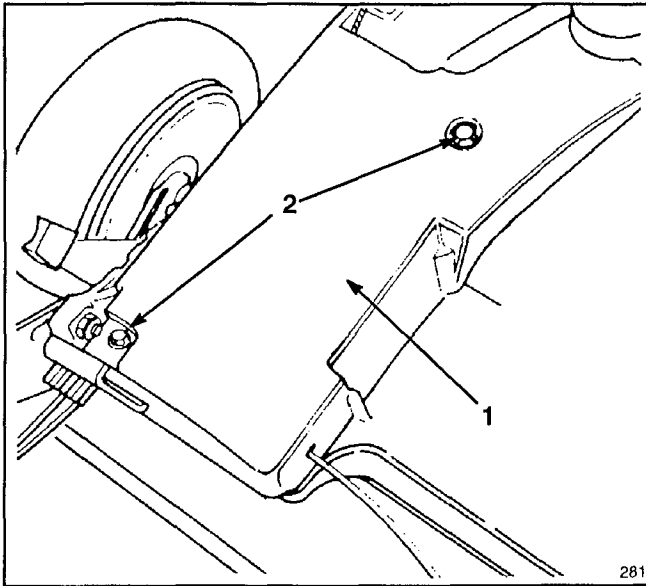

Figure 31
6. Remove screws securing belt cover (Fig. 31) to mower housing. Lift off cover and brush out all debris from belt area. Reinstall belt cover.